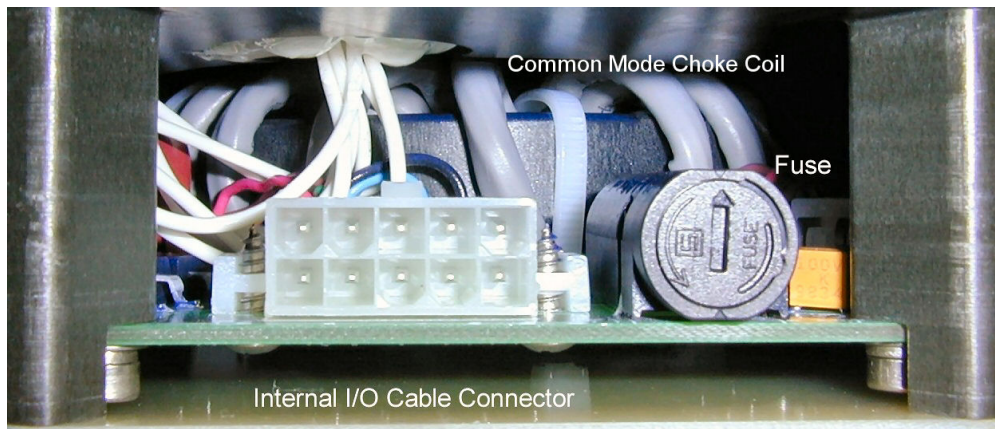

Figure 49. Fuse
3. The fuse is located on the bottom of the end-cap (Figure 49). Use a small flat-blade screwdriver to open the fuse housing. Turn the end 180° counter-clockwise to open the fuse housing.
The external battery case, battery side end-cap is different than the standard Long Ranger / QuarterMaster end-cap. Figure 49 shows the standard Long Ranger / QuarterMaster end-cap. The common mode choke coil is very visible behind the internal I/O cable connector and fuse. The common mode choke coil is NOT installed on the battery side end-cap.